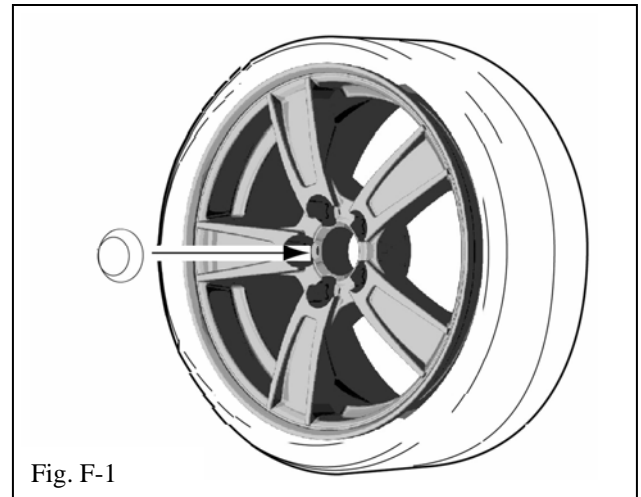

Fig. F-1
1. Place four (4) center caps in the rear cargo area.
**NOTE:** For PDS vehicles install center caps on wheels. Align the cap to the wheel cap opening and gently push cap into wheel until cap snaps into place. (Fig. F-1)